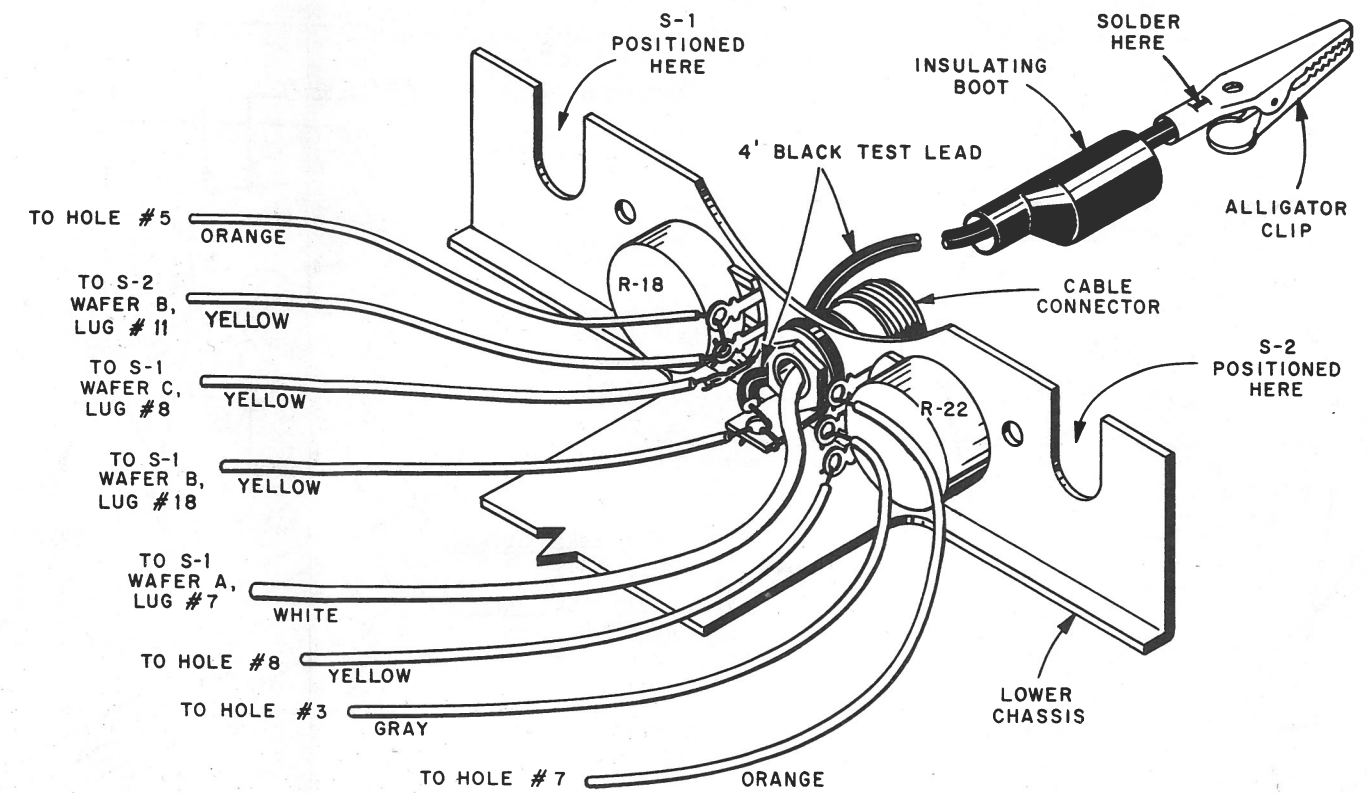

FIGURE 10
4. ☒ Strip ½ inch of insulation from one end of the 4-foot length of black test lead. Twist the strands so that they do not separate, then "tin" the exposed wire by applying a small amount of solder. Connect the wire to the solder lug of the connector, wrapping the tinned end around the side of the lug so that a good mechanical connection is formed. Solder the lug, using enough heat so that both the test lead and the yellow wire form a good solder joint on the lug. Pass the other end of the test lead through the small hole in the bracket under the connector, as shown in Figure 10.
7. ☒ Place the black rubber insulating boot over the end of the test lead, as shown in Figure 10. Insert the tinned end of the test lead into the shaft of the alligator clip, passing the lead through the small metal loop. Solder as shown in the illustration. Allow to cool, then slip the insulating boot over the clip.
13. ☒ Cut a 4-inch orange wire. Strip both ends of the wire and connect it from hole #7 on the laminated board to R-22, lug #1, as shown in Figure 10. (S)
14. ☒ Cut a 5-inch gray wire. Strip both ends of the wire and connect it from hole #3 to R-22, lug #2. (S)
15. ☒ Cut a 4-inch yellow wire. Strip both ends of the wire and connect it from hole #8 to R-22, lug #3. (S)
16. ☒ Rotate R-22 so that it is in the position shown in Figure 10, with the retaining lug on the front of the potentiometer inserted in the small hole in the bracket. Tighten the nut on the shaft of the potentiometer.